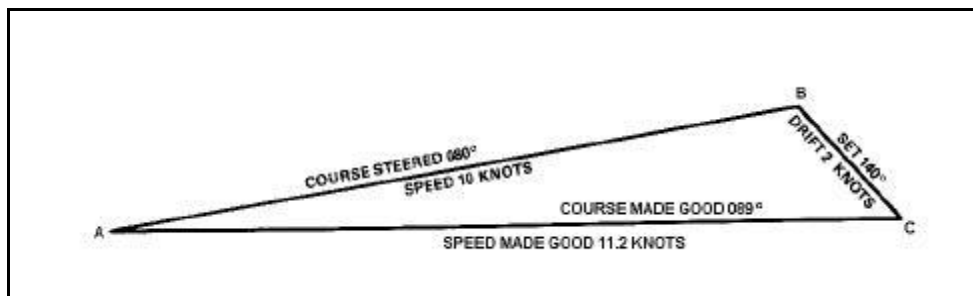

Figure 6-25. Find Course and Speed Made Good
**Example 1:** Find course and speed made good through a current with ship's speed 10 knots, course  $080^{\circ}$ , current set  $140^{\circ}$ , and drift 2 knots (Figure 6-25).